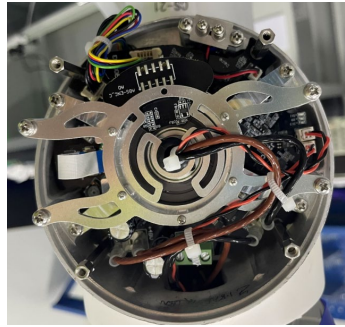

Figure 3-10 Reconnect the wires
- Reconnect the wires and then tie them with nylon zip ties, as shown in Figure 3-10: